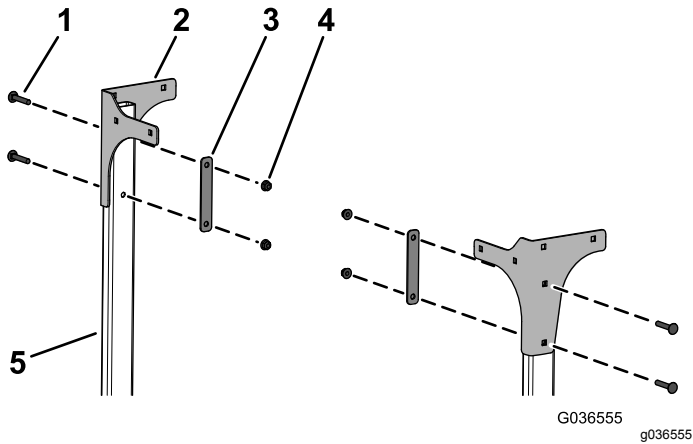

Figure 8
7. Loosely install the left and right rear plates to the tubes using 4 carriage bolts (5/16 x 1-3/4 inches), 2 backing plates, and 4 flange nuts (5/16 inch) as shown in Figure 8.